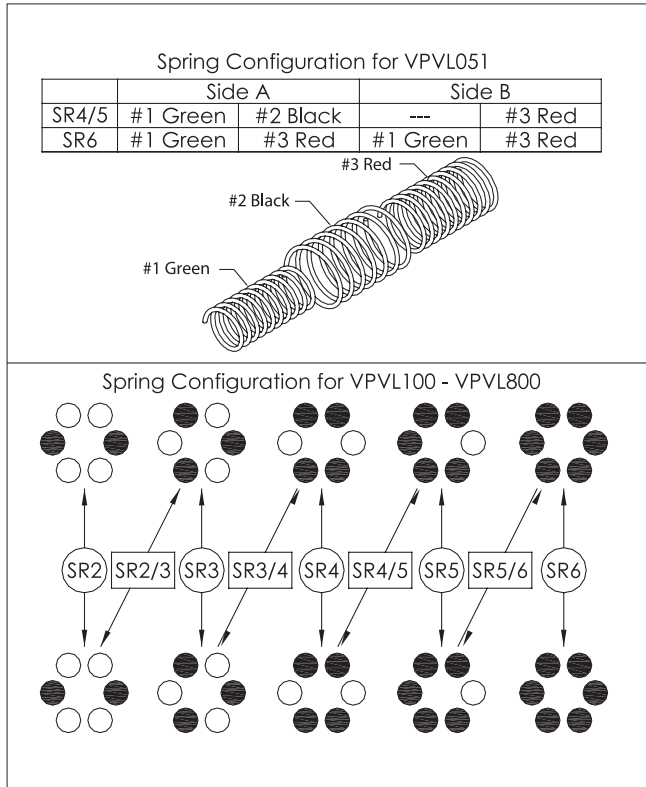

Figure 14.
**3. End Cap (30) and Spring Cartridge (17) Assembly, (Figures 14 through 16):**
- A. For spring-return actuators, insert the proper quantity of spring cartridges (17) according to the pattern shown in (Figure 14) (referring to the total number of springs).